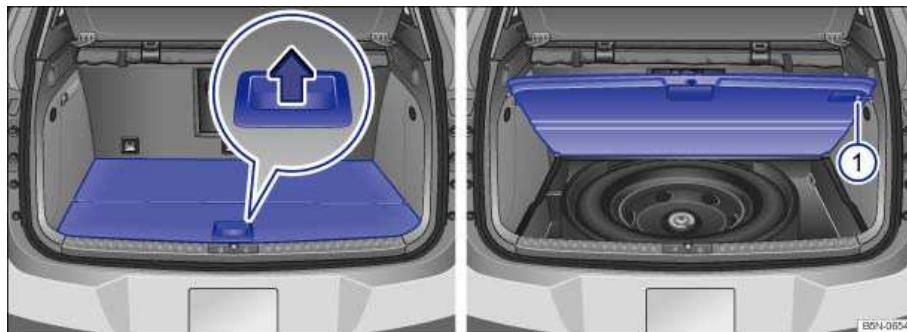

Fig. 107 In the luggage compartment: Opening and securing the variable luggage compartment floor.
- To open, grasp the handle and pull in the direction of the arrow and raise the luggage compartment floor completely ⇒ fig. 107.
- To *secure*, push the retaining pin ⇒ fig. 107 to the right.
- To *close*, push the retaining pin (1) to the left and guide the luggage compartment floor downwards.
There may be a foam element with the spare wheel ⇒ fig. 107 located beneath the variable luggage compartment floor. If a spare wheel is present, remove it ⇒ *Compact spare wheel* and remove the foam element from the luggage compartment.